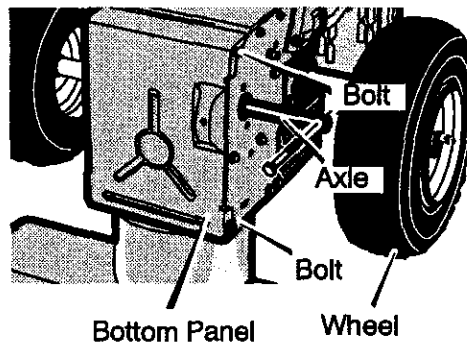

Figure 40
4. Remove the fasteners that secure the right **wheel**. Remove the **right wheel** from the **axle** (see Figure 40)
19. Install the **bottom panel** (see Figure 40).